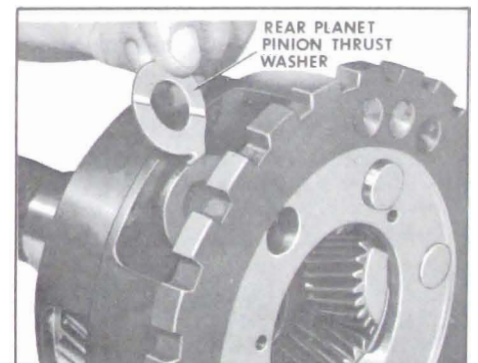

Figure 5-256
12. Remove rear planet pinion thrust washer. See Figure 5-256.